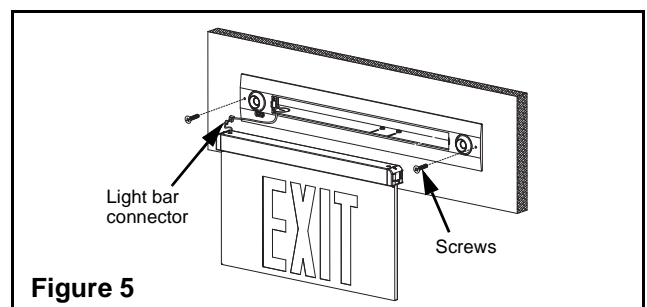

Figure 5
12. Connect the light bar connector and snap the light bar into the trim plate (see fig.5 & 6).